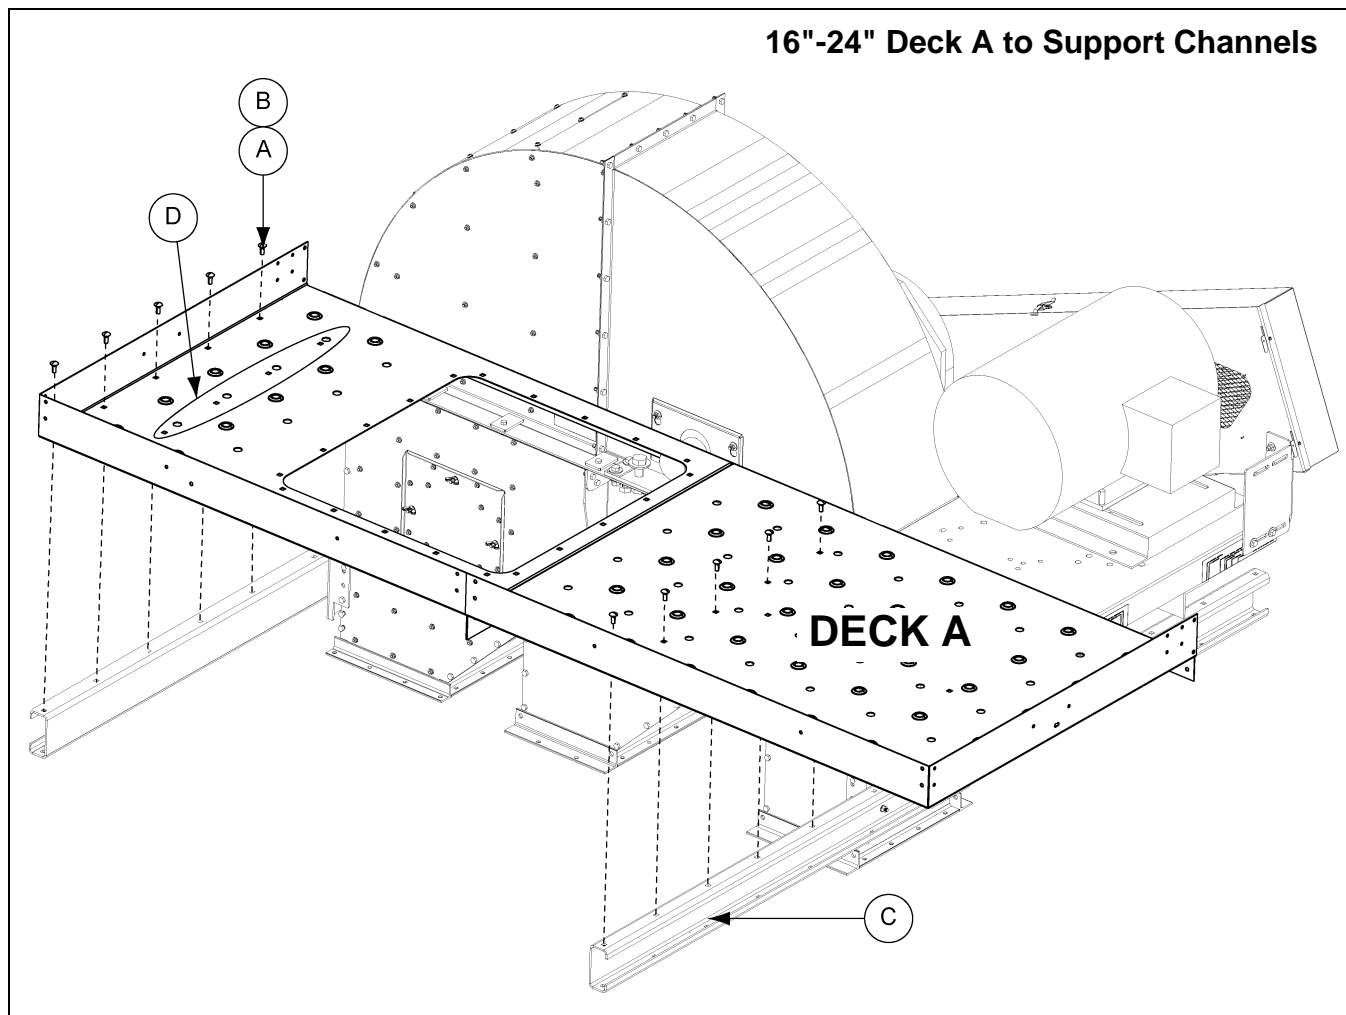

Figure 8C Deck A to Support Channels
1. Using 3/8" x 1" carriage bolts (S-3585) and 3/8" flange nuts (S-10028), connect Deck A to main support channel. **IMPORTANT:** Connect every hole. (See Figure 8C.)